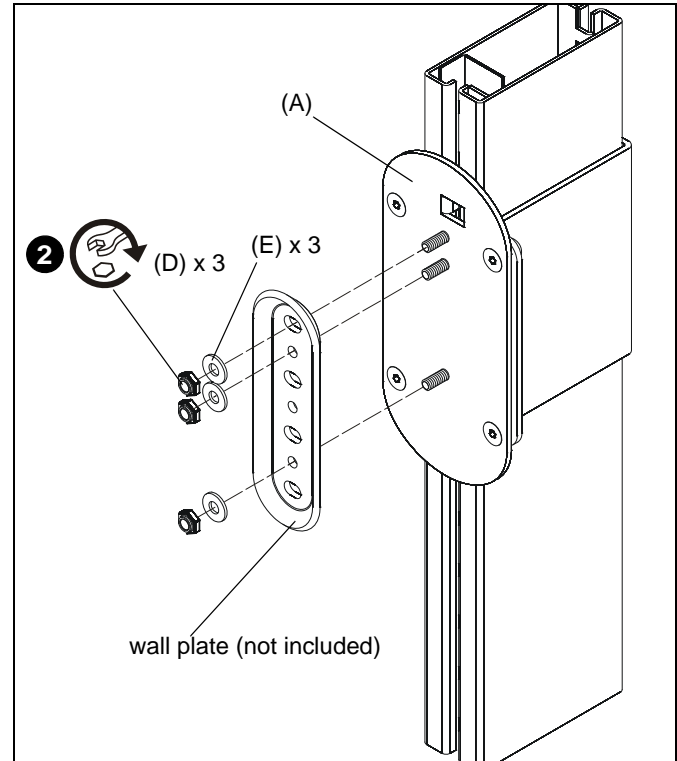

Figure 2
3. Place wall plate (not included) over three fixed screws on main plate (A). (See Figure 2)
4. Place three #10 washers (E) over three fixed screws on the main plate (A). (See Figure 2)
5. Secure wall plate to main plate (A) by installing three #10-24 Nylock nuts (D) onto three fixed screws on main plate (A). (See Figure 2)